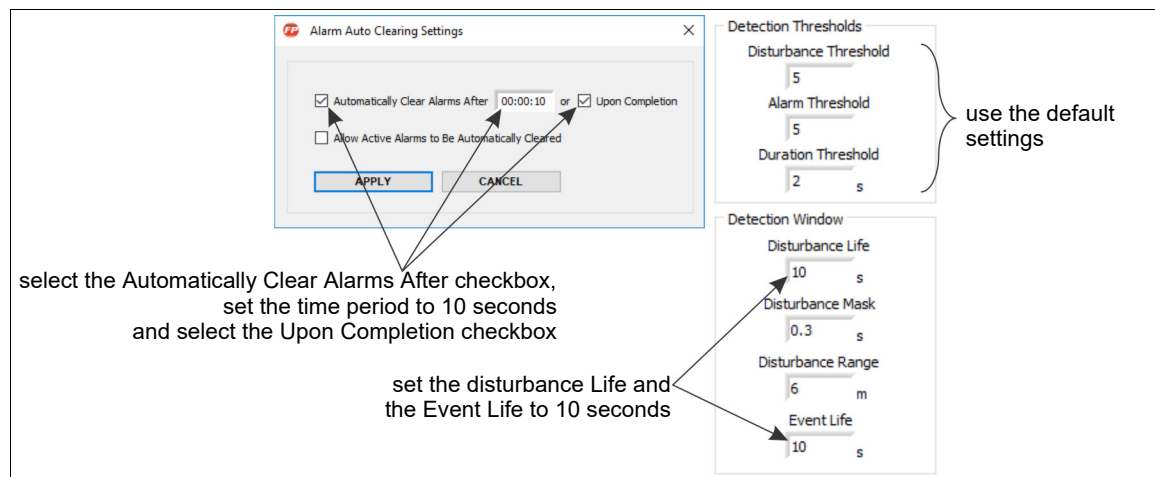

Figure 87 Temporary settings for location calibration
2. Select Configure > Alarm Auto Clearing and check the Automatically Clear Alarms and Upon Completion checkboxes. Set the time to 10 seconds and apply the changes (see Figure 87).